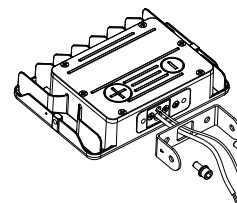

figure 2.1
- Step 2: Pass the wires through hole of bracket; (figure 2.1)